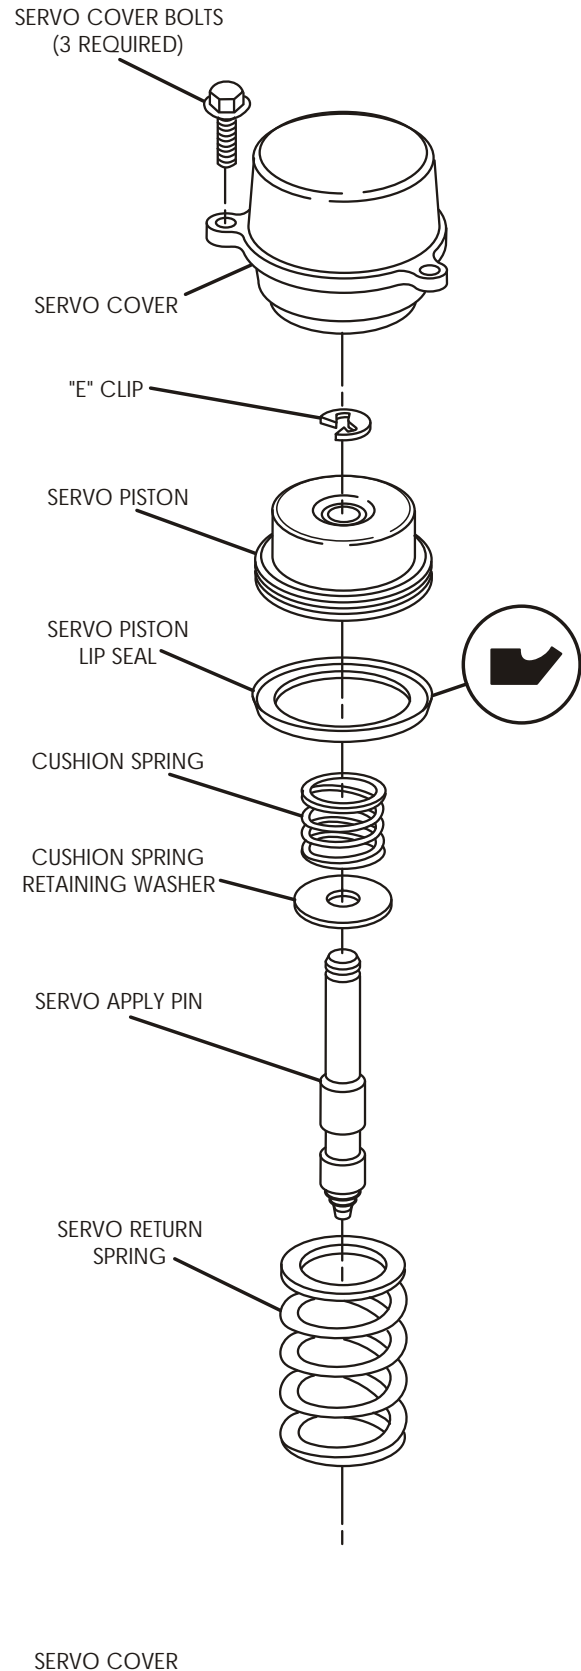

Figure 204
16. Assemble the forward servo assembly as shown in Figure 204.
17. Install new lip seal on the forward servo piston with the lip facing towards the servo cover, as shown in Figure 204.